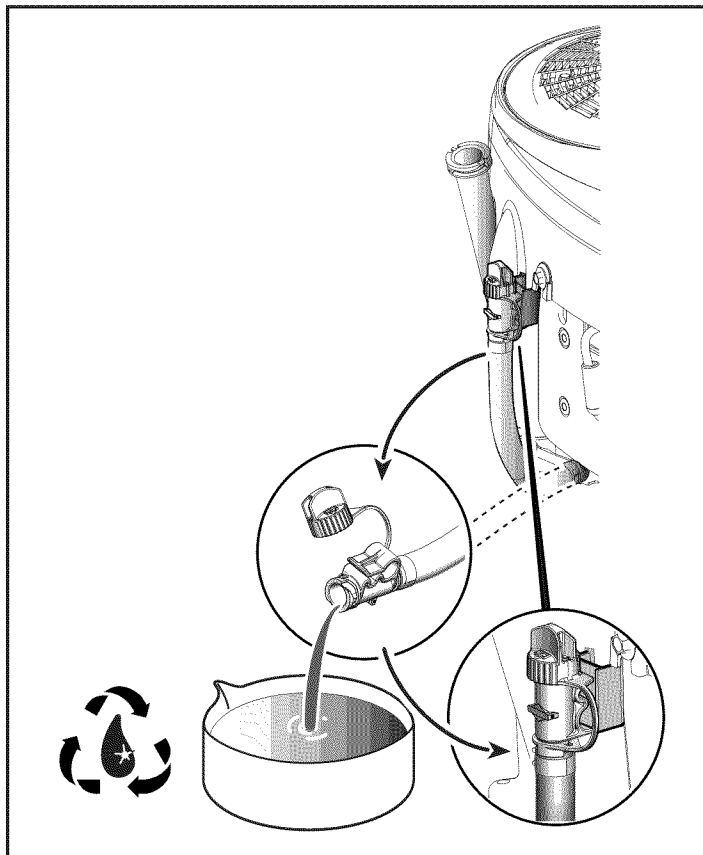

Figure 10
5. Disconnect the oil drain hose (see Figure 10). Carefully remove cap and lower hose into an approved container. After the oil has drained, install cap tightly, then attach the hose to the side of the engine.